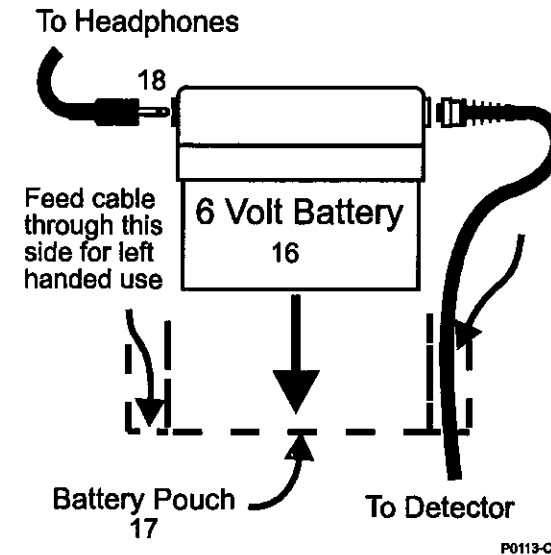

Figure 4 – The SD 2200 battery assembly
- n) Fit the *Battery pack* (16) into the lower pouch (17) of the *Back-pack* (see Figure 4).